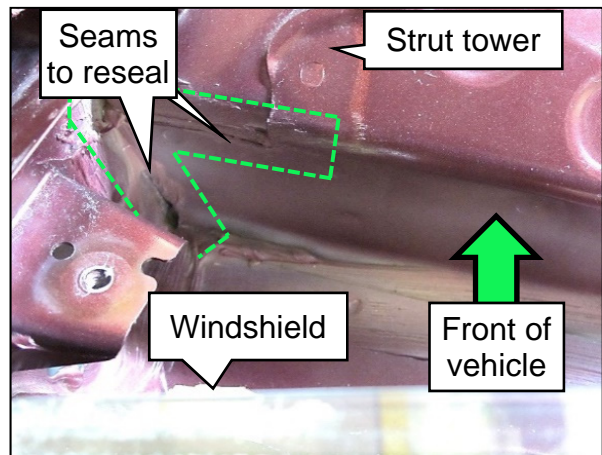

Figure 19
13. Using the brush with the seam sealer on it, apply the seam sealer to the joint seams identified in Figure 19.
- Repeat this process until the seams identified in Figure 19 are completely sealed.